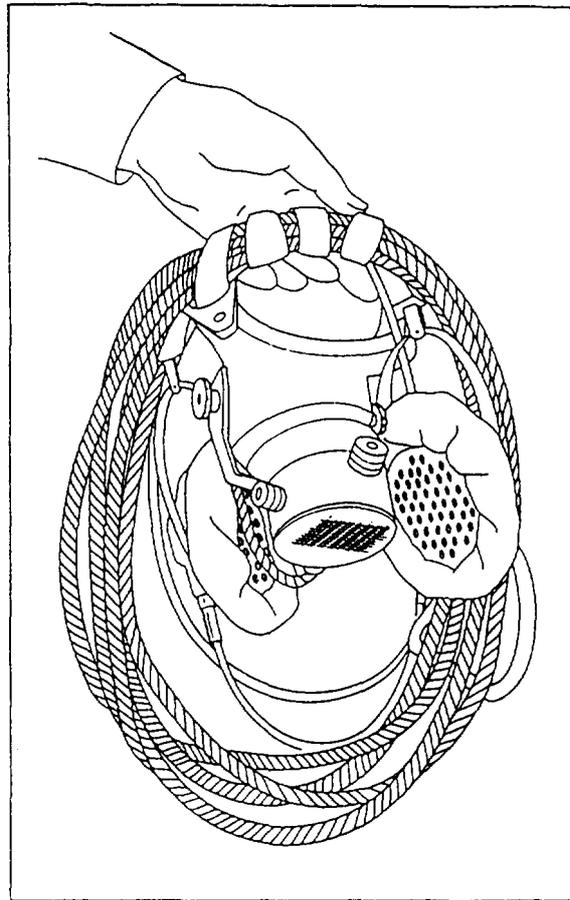

Figure 5-12.—A properly made-up sound-powered telephone headset-chestset.
8. Bring the top of the chestplate level with the headband and cord. Secure the chestplate in this position by winding the neck strap around the headband and coiled cord just enough times so that there will be a short end left over. Twist this end once and refasten it to the chestplate. The set is now made up and ready for stowing, Figure 5-12 shows a properly made up sound-powered telephone headset-chestset.